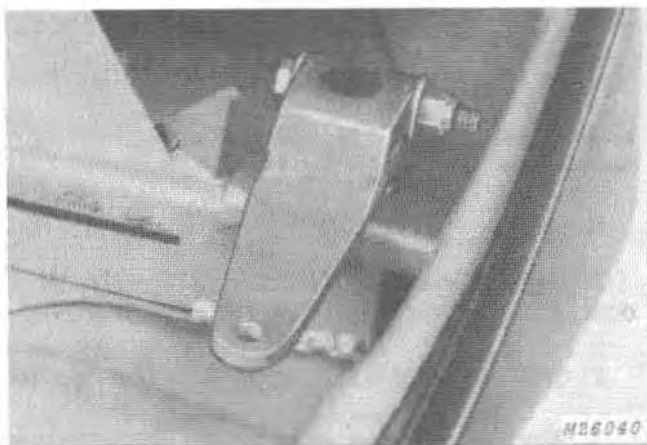

Fig. 11-Replacing Steering Arm
4. Install new steering arm parallel as shown in Fig. 11.